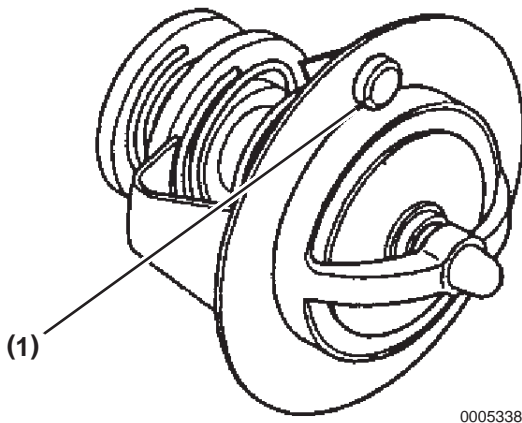

Figure 7-10
5. Inspect the thermostat for damage. Inspect the jiggle valve (**Figure 7-10, (1)**) for damage. Replace as necessary.